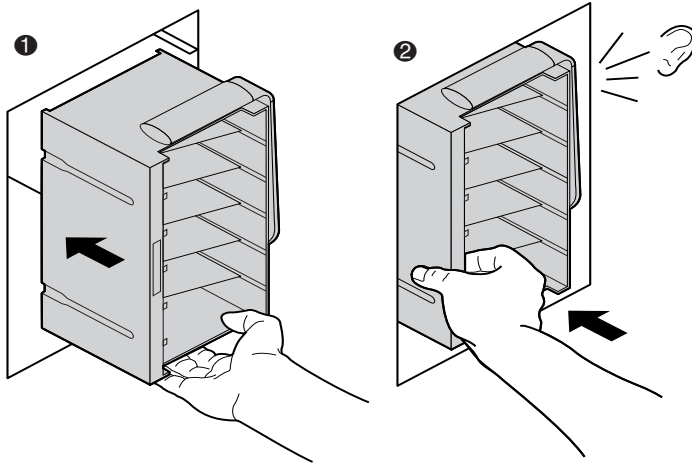

Figure 2-15. Installing a load pack
1. Insert the load pack into the library (❶ Figure 2-15).
2. Push the load pack in until you hear it snap into place (❷ Figure 2-15).